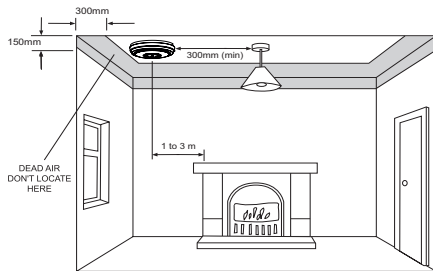

Fig.1
- At least 300mm away from walls (see Figure 1).